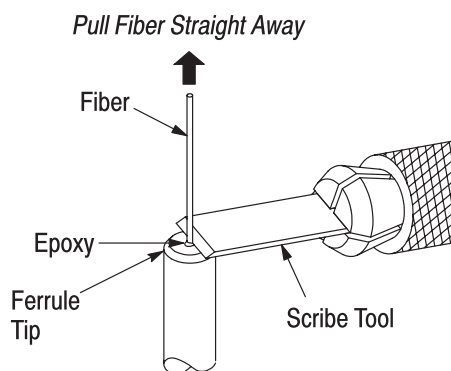

Figure 7
3. Place the blade of the scribe tool directly above the epoxy, and lightly draw the beveled edge across the fiber parallel to the tip of the ferrule. See Figure 7. After scoring the fiber, pull it straight away from the connector.